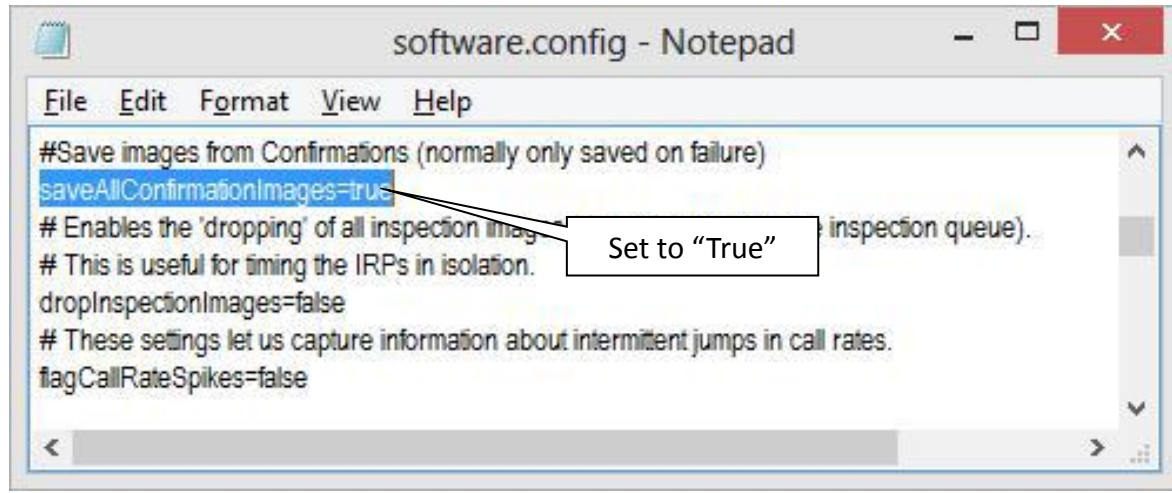

Figure 1
2. Search for “saveAllConfirmationImages”, set indicator value to “true” and save config. May refer to Figure 1